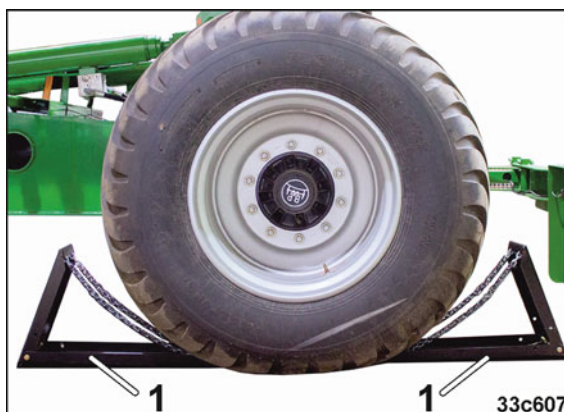

Fig. 144
10. Secure the implement wheels with two wheel chocks (Fig. 144/1)